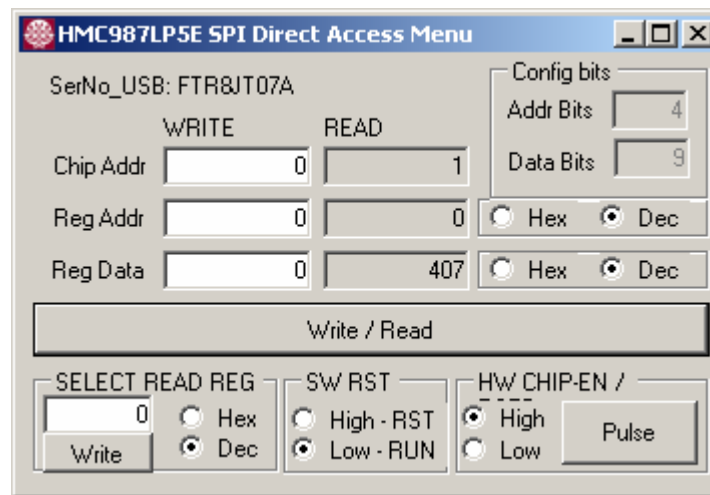

Figure 6. Direct SPI Access
- “Direct SPI Access” button in the ‘HMC987LP5E Main GUI’ provides direct register read/write capability (Figure 6).